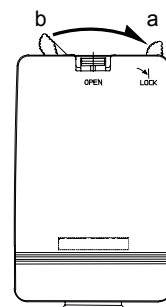

Figure 10. Fixing the main unit on the panel (with the mounting bracket)
- 4) Completely insert the probe into the panel. Then, fix the probe and the bracket by turning the stopper 45 degrees (from 'b' to 'a' (lock position) shown in Fig. 10).